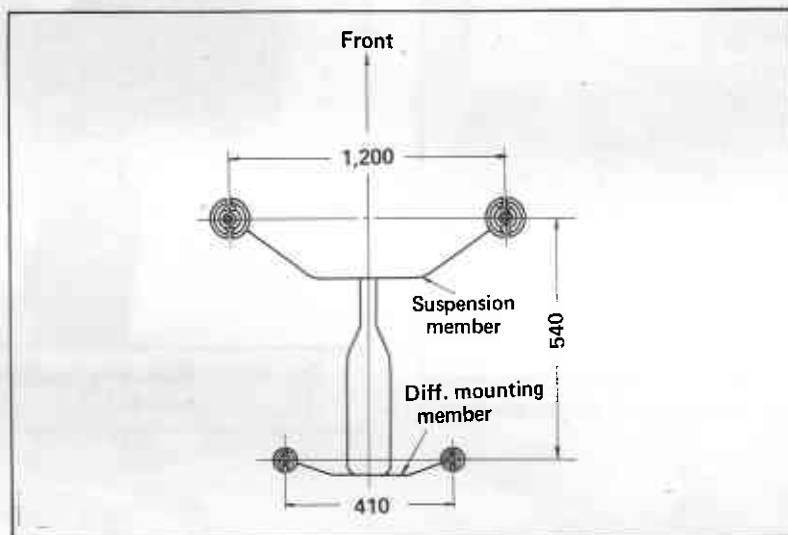

Fig. RA-7 Insulator
4. The rubber insulators should be correctly lined up as shown in Figure RA-7 and inserted from the underside of the member.